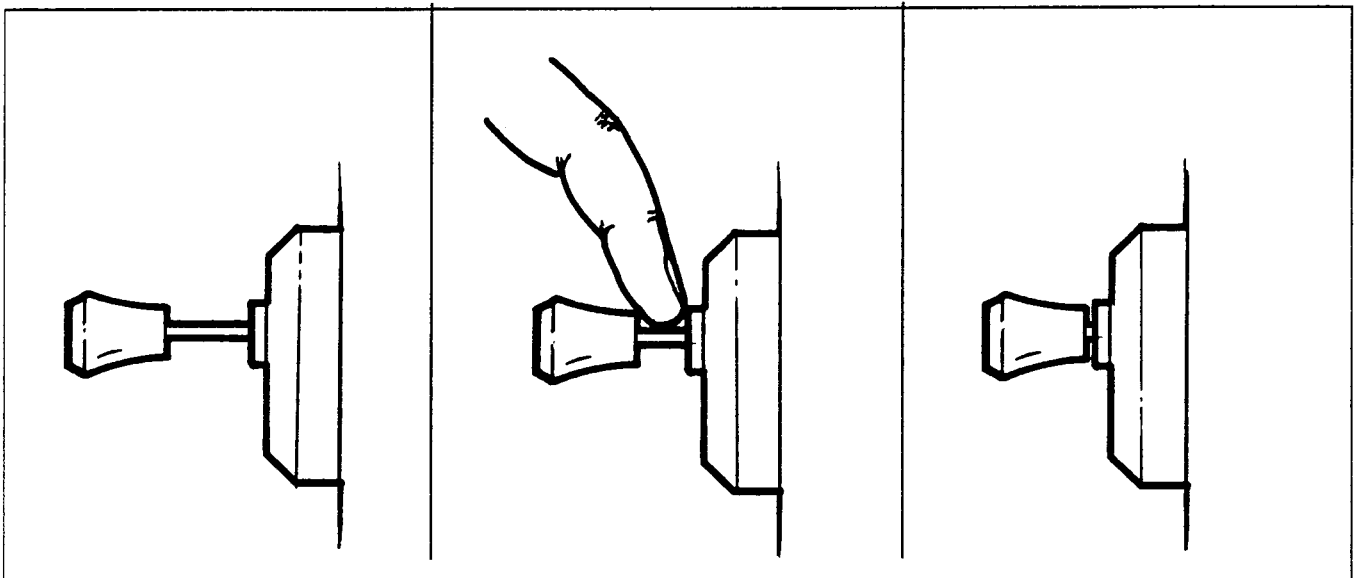

Figure 1. Enrichener Fully out Figure 2. Enrichener Knob 1/2 way Out Figure 3. Enrichener Knob fully in
BE SURE THROTTLE IS CLOSED. See Figure 1. Pull enrichener knob fully out. Turn the ignition switch on and press starter switch to operate the electric starter.
1. See Figure 1. If the outside temperature is less than
1. See Figure 1. If the outside temperature is greater than 50° F., ride for 3 minutes or 2 miles with enrichener knob fully out.